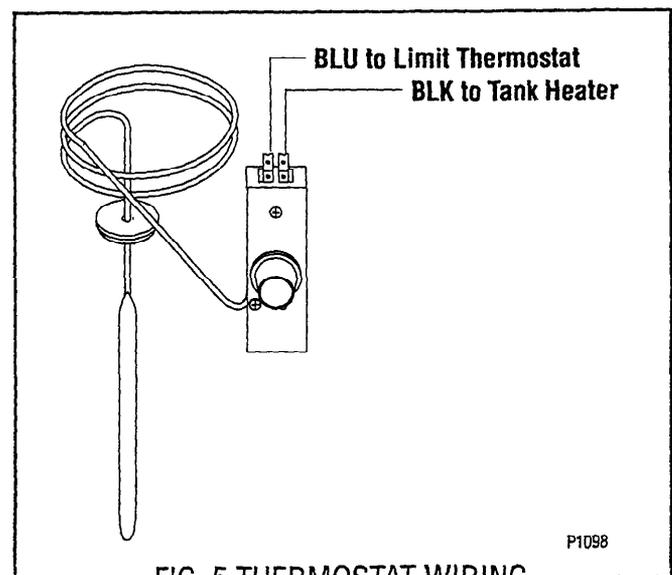

FIG. 5 THERMOSTAT WIRING
10. Refer to FIG. 5 when reconnecting the wires.